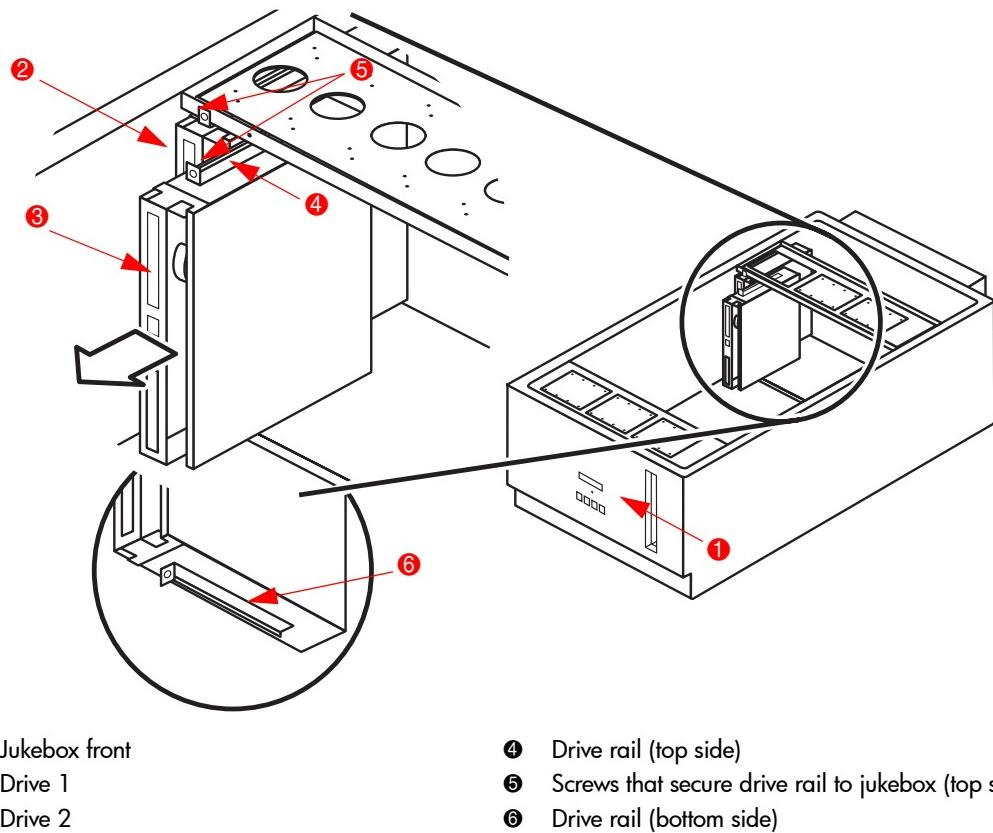

Figure 10: Install screws that secure drive rails to jukebox
8. Secure the drive rails to the jukebox frame using two T-10 Torx screws (see Figure 10).